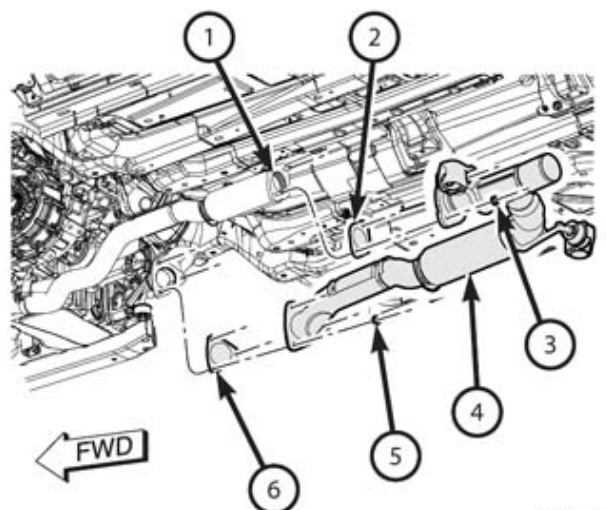

Figure 1 – Exhaust
3. Remove the exhaust crossunder pipe (1) (Figure 1).
5. Remove the rear catalytic converter to Y-pipe nuts (5) (Figure 1).